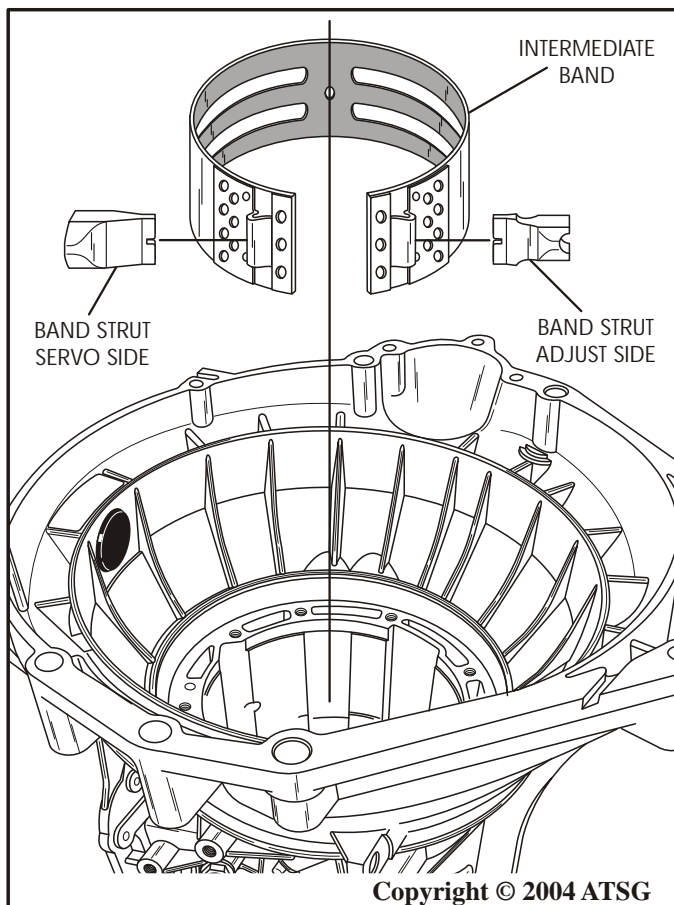

Figure 43
38. Remove the center support and set aside for component rebuild, as shown in Figure 43.
39. Remove the intermediate band assembly and both band struts, as shown in Figure 43.
*Note: Notice the difference in the band struts and which side they are located, as shown in Figure 43.*